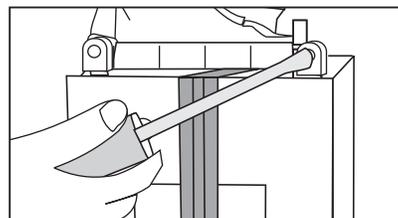

Fig. 41
- 6.2.3 Remove the screw securing ground cable (black) connected to the negative (-) battery terminal by using the end of the screw driver from your tool kit. (Fig. 41)